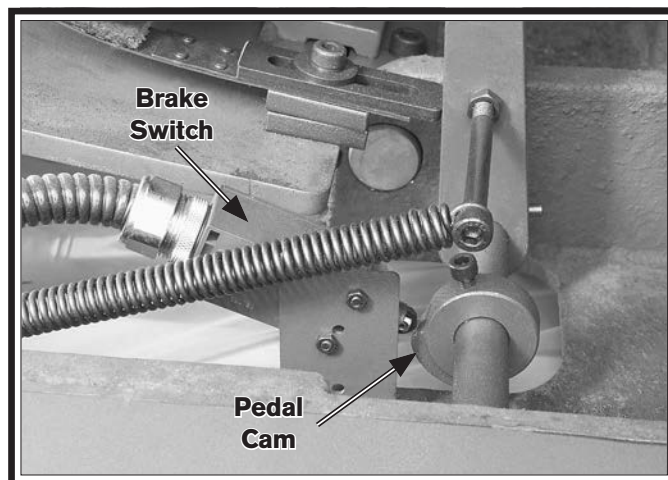

Figure 127. Brake switch and pedal cam.
9. Locate the brake switch shown in **Figure 127**.